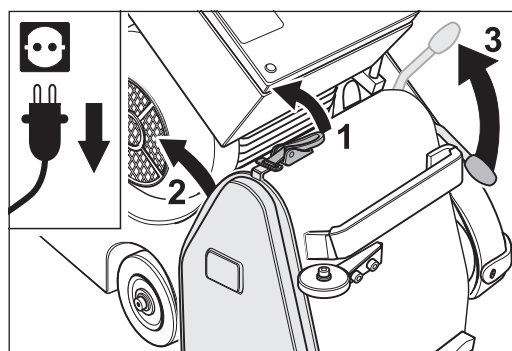

Fig. 34 Release the cover lock (1), remove the side cover (2) and lower the tensioning roller by pulling up the operating lever (3).
- 3 Release the cover lock (Fig. 34, 1) and remove the side cover on the right of the machine housing (Fig. 34, 2).
- 4 To release the tension of the sanding belt, pull the operating lever of the drive unit upwards (Fig. 34, 3). This will lower the tensioning roller.